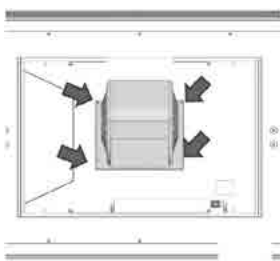

FIG.19
- › Install the motor facing the upper side or in the long side using the four screws earlier removed (Fig.19).